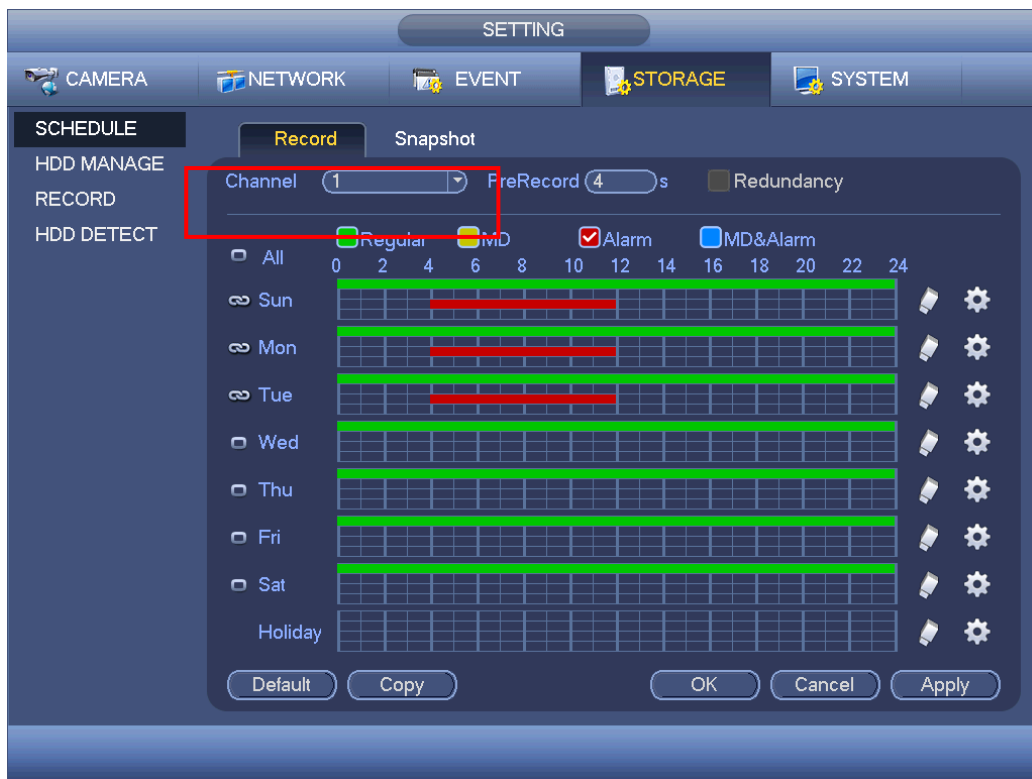

Figure 4-107
- In main menu, from Setting->Camera->Encode->Schedule interface, please enable snapshot function. See interface on the right of Figure 4-107.